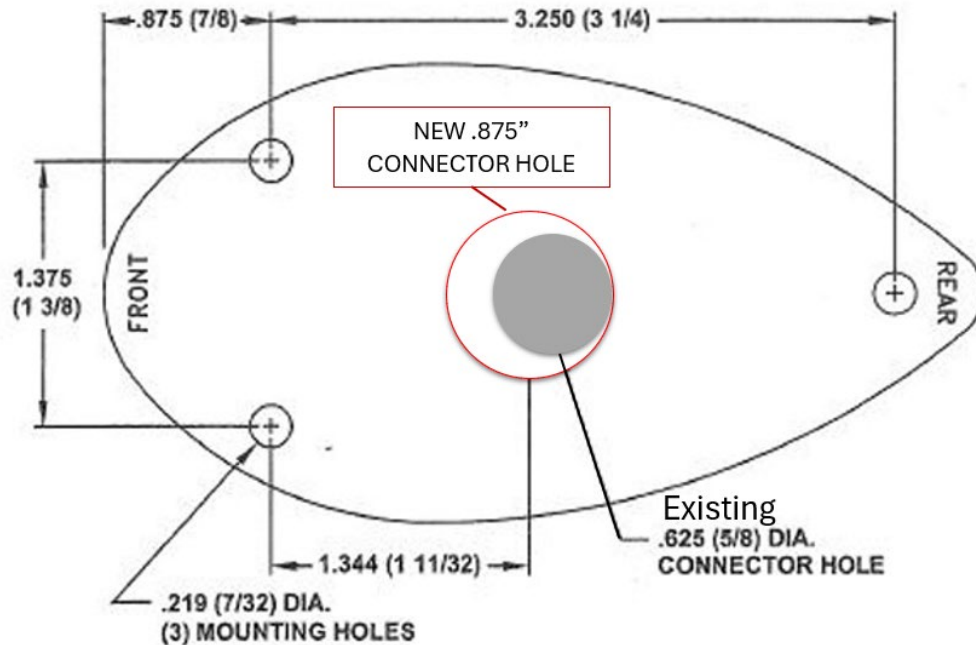

Figure 4. Template
- a. Using the template provided at the end of this document in Figure 4, center the template and transfer (3) new mounting holes (.219" +.006" / -.010"). Use a grinder/Dremel to enlarge the coax connector pass through hole to .875", keeping the hole as far forward as possible (as shown).